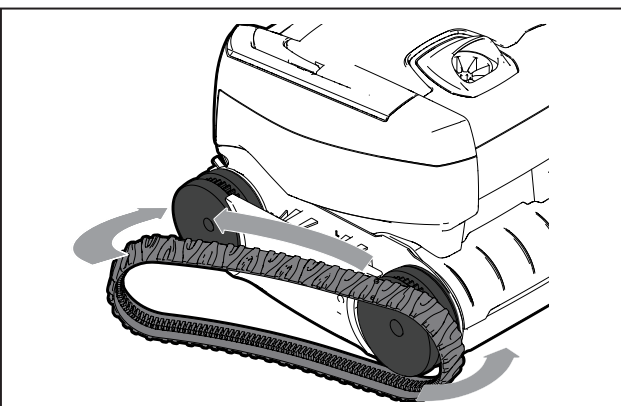

Figure 19. Stretch Track Around Wheels
3. To install a new track, place the inside rib of the track into the groove in the first wheel (Figure 19).
4. Stretch the track around the second wheel, (see Figure 19). Push and position the rib of